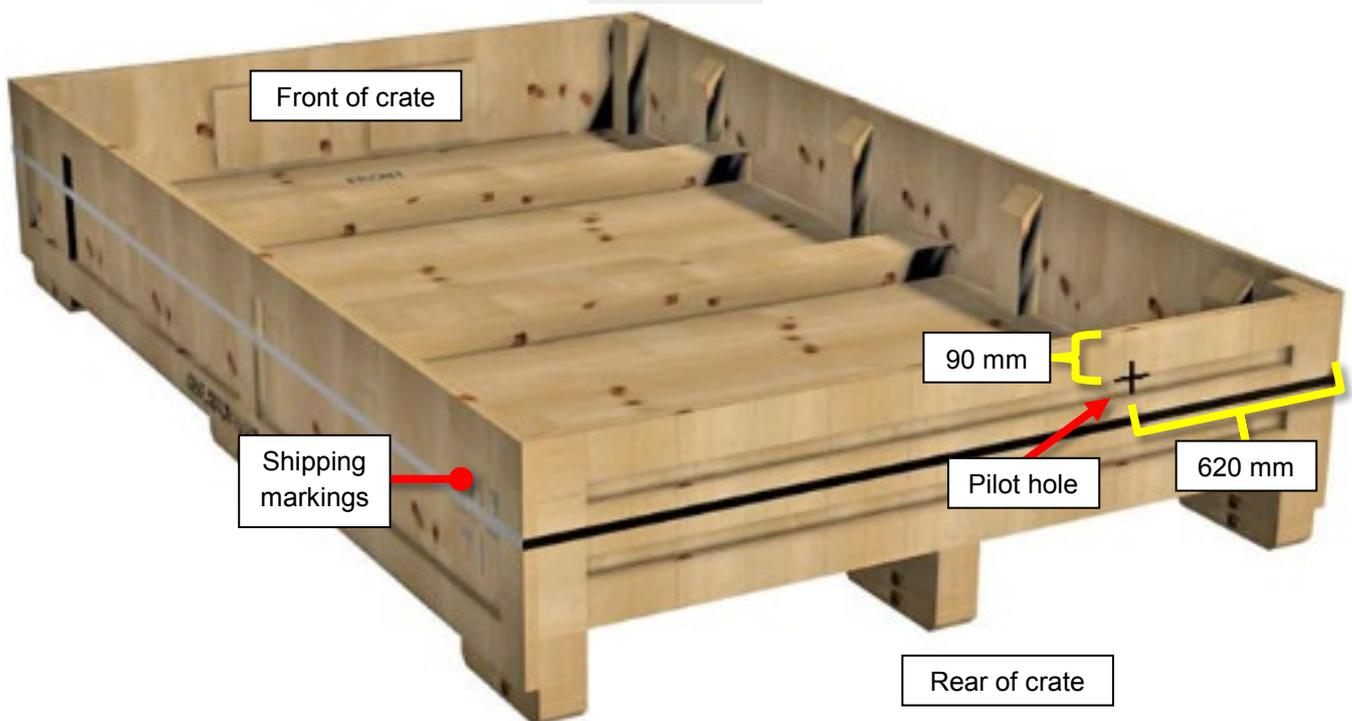

Figure 2
2. Determine the location to drill the pilot hole (Figure 2) by measuring: